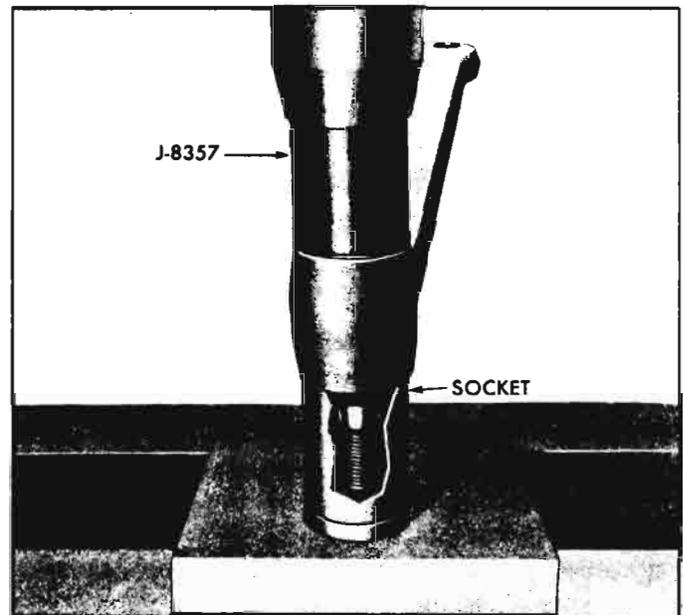

Fig. 4-30—Installing Bushing
- Place relay rod on press, resting on a deep socket of suitable size. Use tool J-8357 to press new bushing into place in relay rod (fig. 4-30).